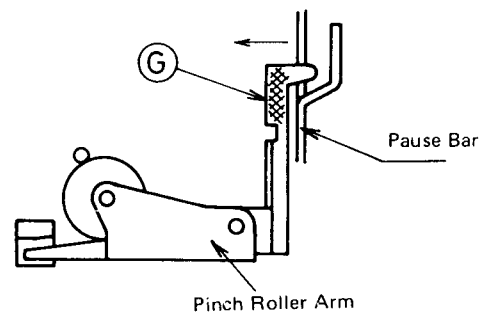

Fig. 19
If the mechanism becomes fast forwarding mode, when the PAUSE button has been gradually pressed, bend the part (G) of pinch roller arm to the arrow direction to adjust that the take-up reel and the pinch roller stops at the same time as shown in Fig. 19.